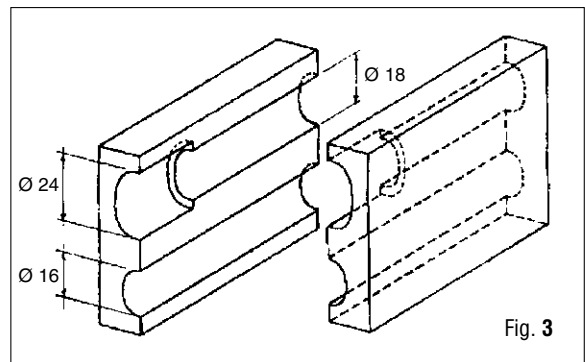
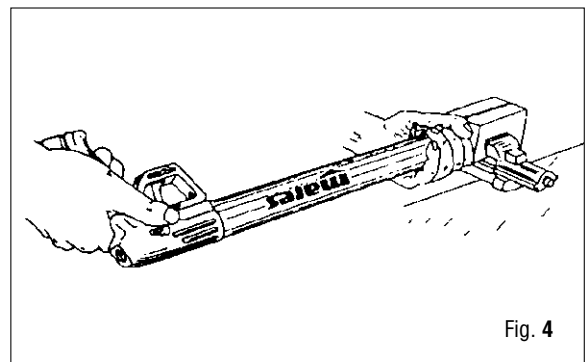
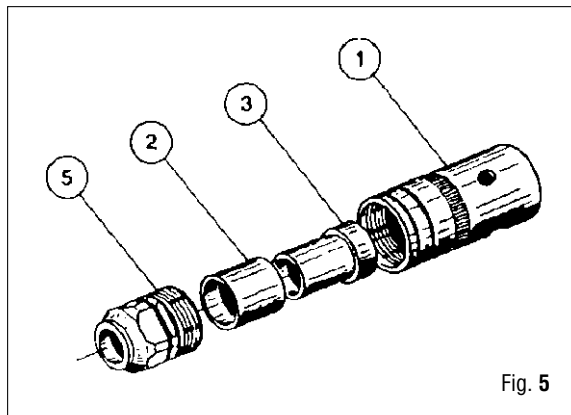
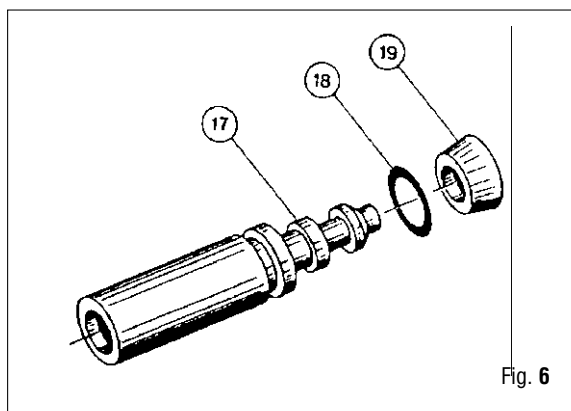

Fig. 3
Fig. 4
Fig. 5
Fig. 6
5. Using a vise, clamp the head (1-2-3-5) in the 24 mm. jaws (A-1) (Fig. 3). Remove the head by holding the handle and the nose cone and simultaneously turning them counter-clockwise using equal effort (Fig. 4).
THE HANDLE AND NOSE CONE MUST BE TURNED SIMULTANEOUSLY USING EQUAL EFFORT OR INTERNAL DAMAGE TO THE GUN WILL RESULT FIG. 4.
6. Clamp the head in the 24 mm. jaws (A-1) (Fig. 3) and remove head tip (5) from head body (1) with a 19 mm. wrench (Fig. 5).
7. Remove shock absorber (2) and insert (3) from head body.
8. Remove shock absorber (2) from shock absorber insert (3).
9. Remove piston (17-18-19) from the barrel. If necessary a shaft may be used to aid in the removal of the piston (Fig.6).
10. Remove oil wiper (19) and O-ring (18) from piston (Fig. 6).
11. Using a rotating motion, remove the nose cone (4) and O-ring (20).
13. Using a rotating motion remove the tank (25), using clamping jaws (A-3) if needed.
14. Place the barrel in the 18 mm. jaws (A-1) (Fig. 3) and clamp into vise.
15. Remove barrel O-ring (22) with tool A-7.
16. Using snap ring pliers remove the barrel bushing (21).
18. Remove trigger pin (53) using a pin punch, then remove trigger (48-52-75).
19. Remove the trigger adjustment screw (48) from trigger body (52) with a 6 mm. wrench.
20. Remove the trigger insert (75) by depressing the locking tab and sliding it out of the trigger body (52).
1. Place the barrel in the 16 mm. jaws (A-1) (Fig. 3) and clamp into vise (Fig. 11).